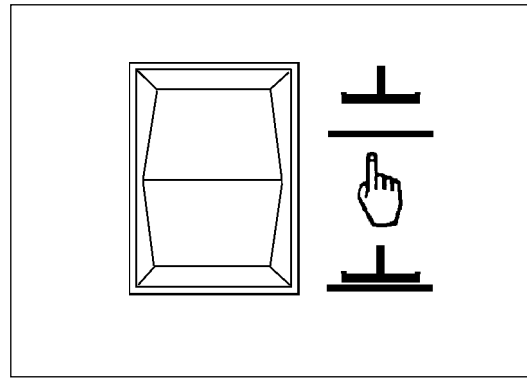

Figure 24
1. To lower the squeegee and start the vacuum motor, press the squeegee up/down switch to the down position (figure 24).
2. To raise the squeegee, press the squeegee up/down switch to the up position (figure 24). The squeegee will then raise and the vacuum motor will shut off after short delay **NOTE: The center position of the squeegee up/down switch is for use with one touch control.**